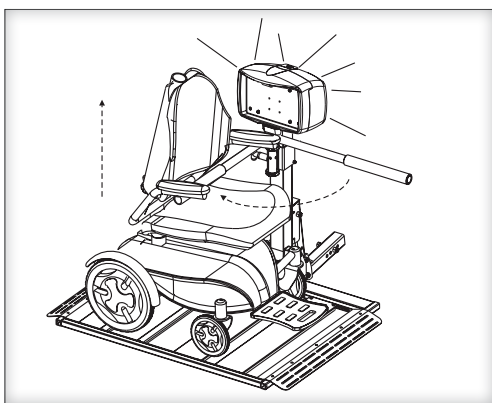

Figure 34-2
2. Raise platform to top of travel until you hear the clutch. [Figure 34-2]